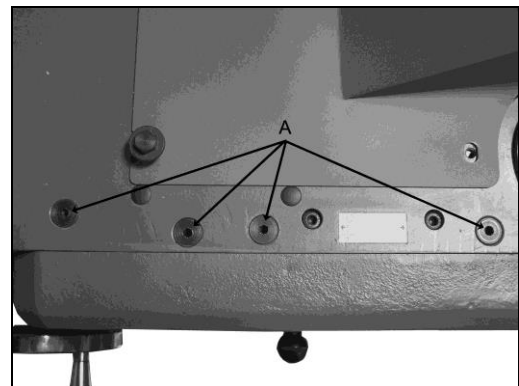

Figure 20
3. Lubricate the feed rollers after each use with a 30 weight motor oil. Four of the lubrication points are indicated by A in Figure 20. the other four are located on the opposite end of the machine.